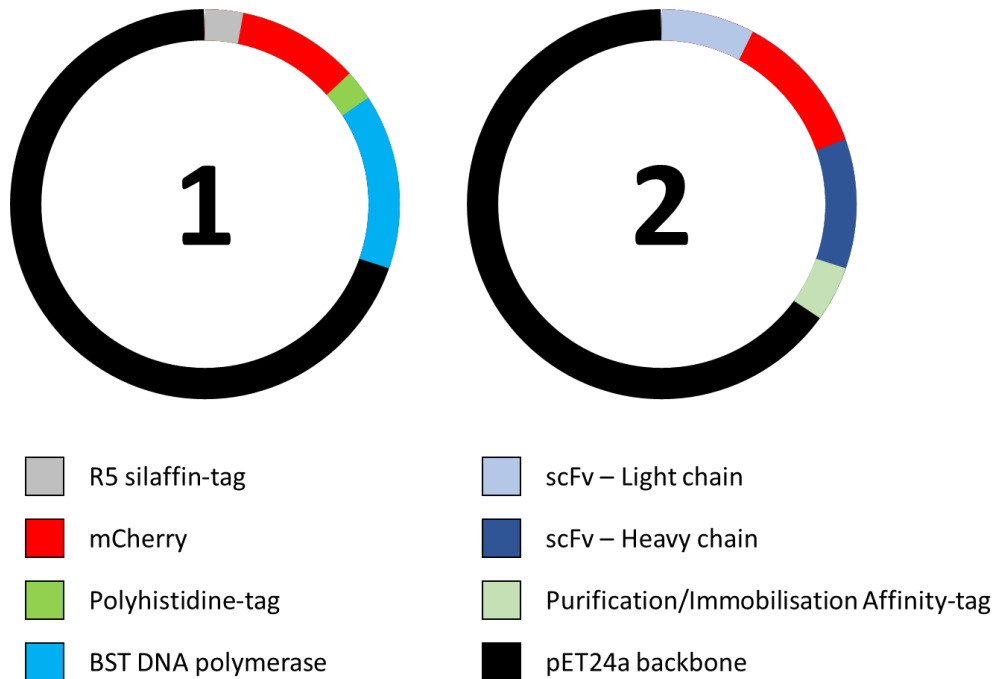

Figure 1: Illustrations of the two current Boon-system architecture (1 – polymerase, 2 – scFv).
There are currently two Boon-Enzyme designs, as shown in Figure 1. The reason for the different order is due to the compatibility of the enzyme/scFv with the recombinant additions. Design (1) was utilised by the all the Boon-polymerases (i.e., BST and RTX). This is because both polymerases have their active-site near the C-terminal, and any potential C-terminal addition to these enzymes would severely inhibit the enzyme. N-terminal modifications allow for safe implementation of the Boon-design without serious impact on enzymatic activity. The silaffin tag was positioned at the beginning (N-terminal) to maximise accessibility. In a similar note, the internal histidine-tag was extended from the traditional His6 to His10 (a peptide of 6 or 10 repeating histidine amino acids) to improve its accessibility since it was positioned unfavourably. The histidine-tag was not positioned (based on sequence) next to the R5 silaffin-tag as the two tags were observed to interfere with one another. Design (2) was implemented for the constructs with an scFv. In order to minimise any potential interference with the binding properties of the Boon-scFv, the mCherry was positioned as a linker in